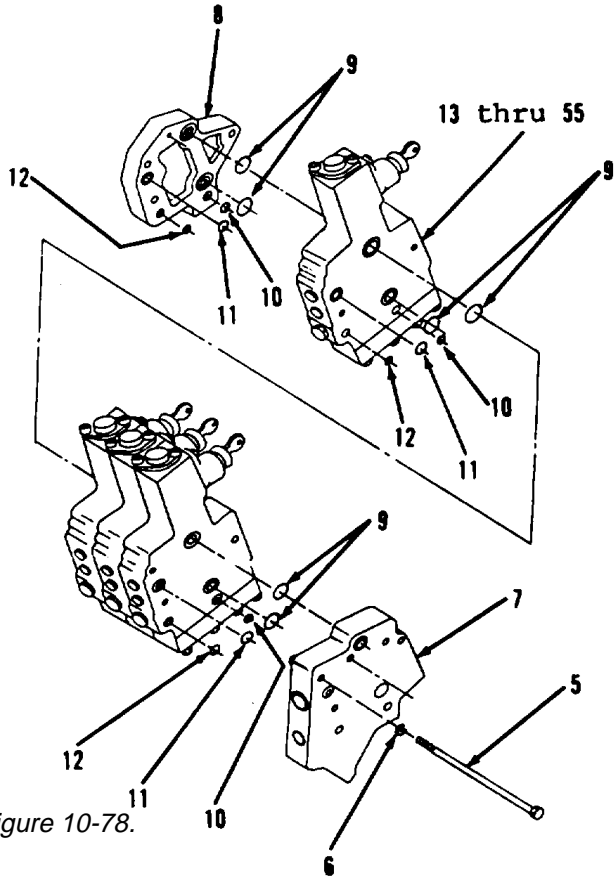

Figure 10-78.
4. Remove three bolts (5) and lockwashers (6, Figure 10-78).